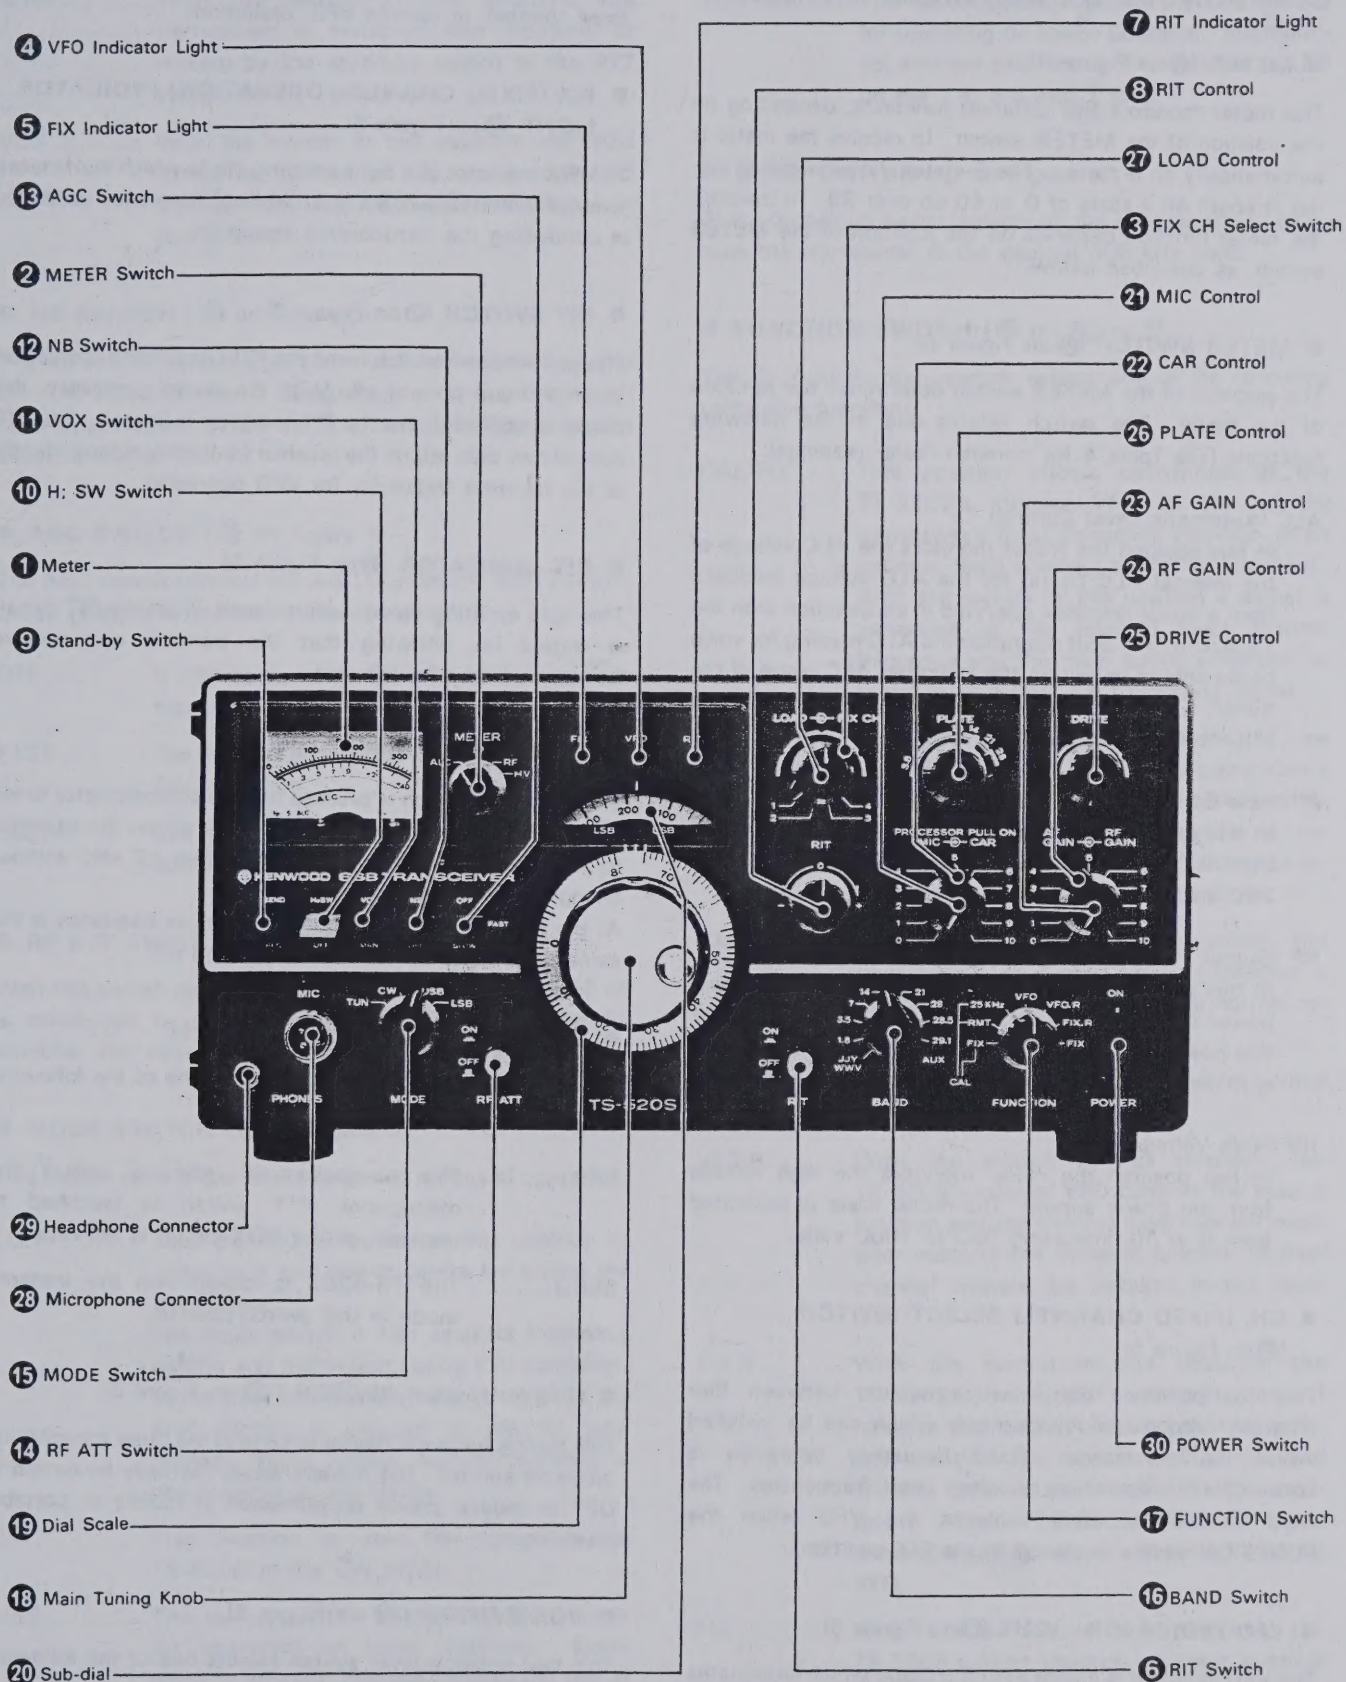

Fig. 5 Front Panel Controls
3.1 FRONT PANEL CONTROLS (See Figure 5)
■ METER (① on Figure 5)
■ METER SWITCH (② on Figure 5)
(③ on Figure 5)
■ VFO INDICATOR LIGHT (④ on Figure 5)
■ FIX (FIXED CHANNEL OPERATION) INDICATOR LIGHT (⑤ on Figure 5)
■ RIT SWITCH (⑥ on Figure 5)
■ RIT INDICATOR (⑦ on Figure 5)
■ RIT CONTROL (⑧ on Figure 5)
■ STAND-BY SWITCH (⑨ on Figure 5)
■ H. SW (Heater) SWITCH (⑩ on Figure 5)
■ VOX SWITCH (⑪ on Figure 5)
■ **NB SWITCH** (12 on Figure 5)
■ **AGC SWITCH** (13 on Figure 5)
■ **RF ATT SWITCH** (14 on Figure 5)
■ **MODE SWITCH** (15 on Figure 5)
■ **BAND SWITCH** (16 on Figure 5)
■ **FUNCTION SWITCH** (17 on Figure 5)
■ MAIN TUNING KNOB (13 on Figure 5)
■ DIAL SCALE (19 on Figure 5)
■ SUB-DIAL (20 on Figure 5)
■ MIC CONTROL (PROCESSOR PULL ON) (21 on Figure 5)
■ CAR CONTROL (22 on Figure 5)
■ AF GAIN CONTROL (23 on Figure 5)
■ RF GAIN CONTROL (24 on Figure 5)
■ DRIVE CONTROL (25 on Figure 5)
■ PLATE CONTROL (26 on Figure 5)
■ LOAD CONTROL (27 on Figure 5)
■ MIC CONNECTOR (28 on Figure 5)
■ PHONES JACK (29 on Figure 5)